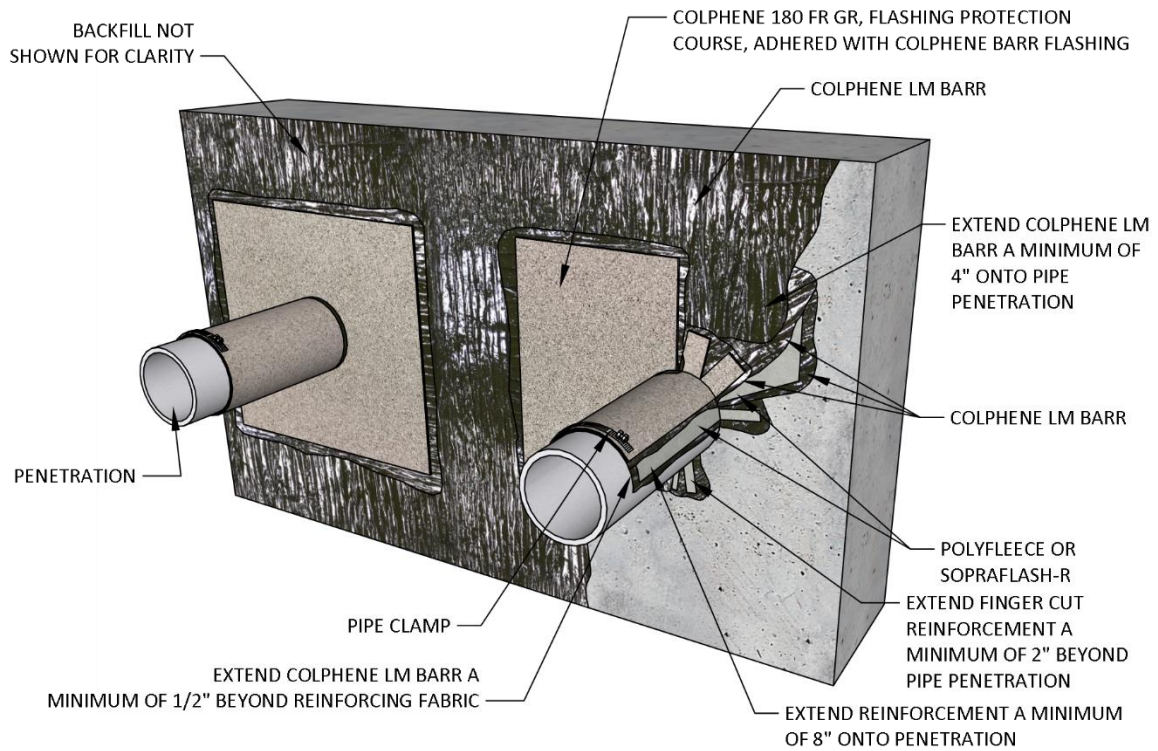

Figure 2.1c Non-Reinforced COLPHENE® LM BARR At Penetrations
- Refer to Figures 2.1c and 2.1d below.